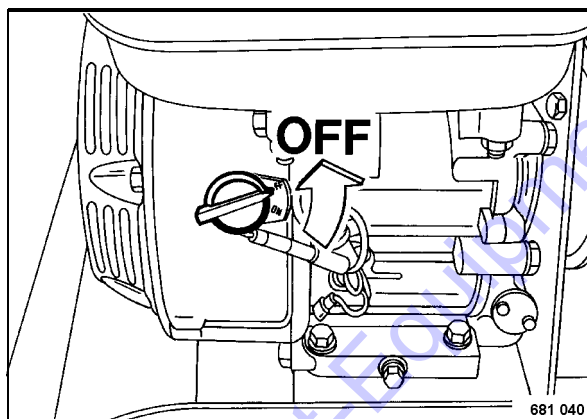

Fig. 20
- Turn the ignition switch to position "OFF" (Fig. 20), the engine will stop.